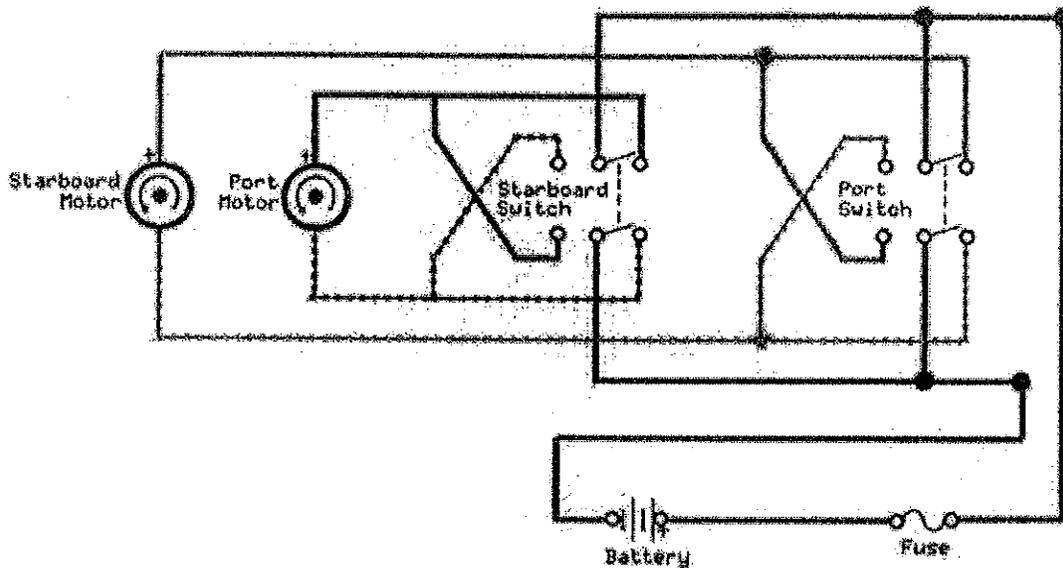

Figure 45: Circuit diagram for horizontal (port & starboard) thruster controls.
1. Refer to Figures 45 and 46 on the following pages for a circuit diagram and wiring diagram for the horizontal (port & starboard) thruster controls (the toggle switches).